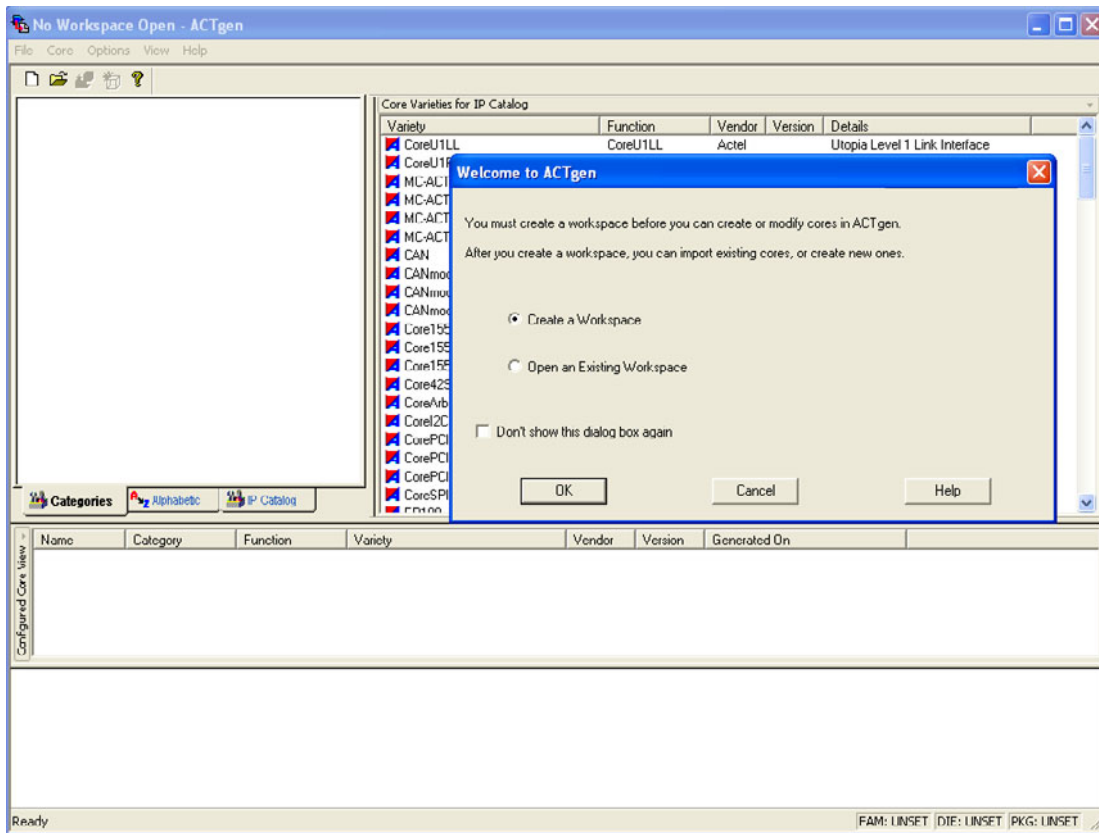

Figure 2 • Invoking SmartGen
1. Start **SmartGen**. Then choose to **Create a Workspace** or **Open an Existing Workspace**, as shown in Figure 2.